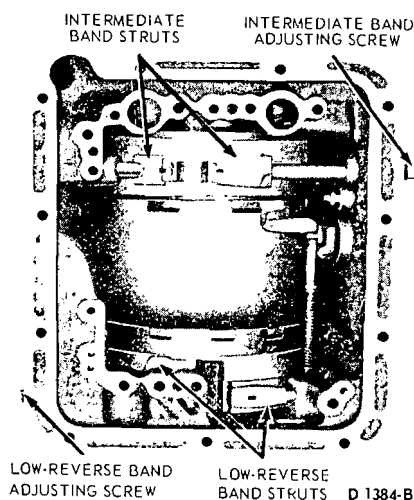

FIG. 39—Band Adjusting Studs and Struts
7. Loosen the intermediate band adjusting screw (Fig. 39) and remove the intermediate band struts from the case. Loosen the low-reverse band adjusting screw and remove the low-reverse band struts (Fig. 39).